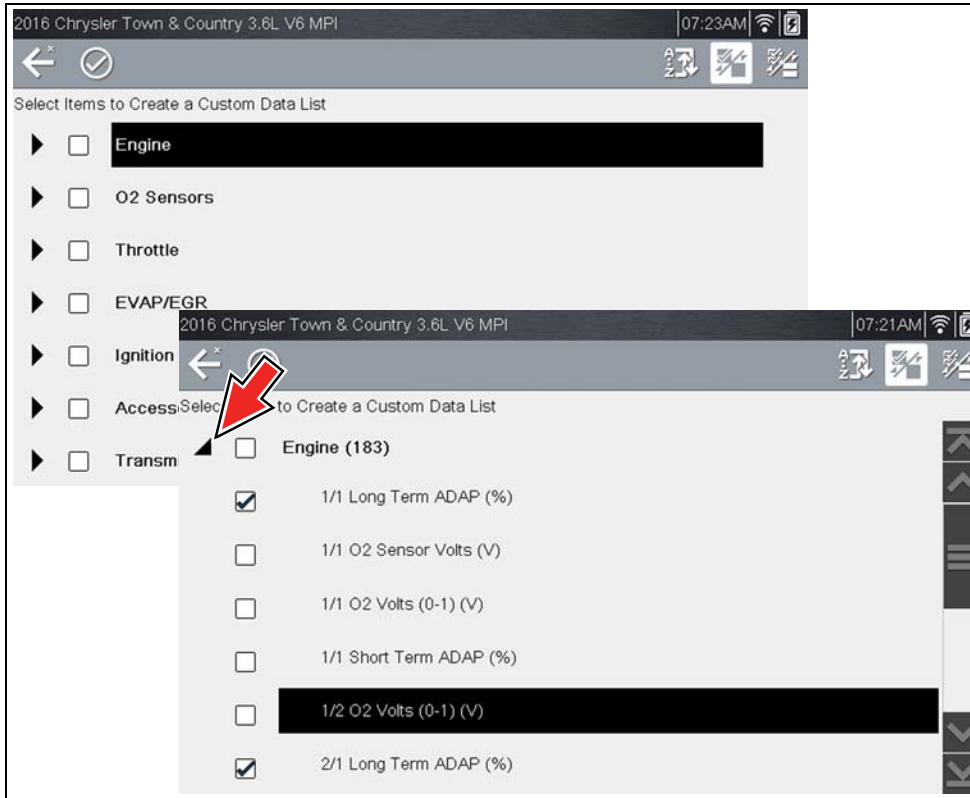

Figure 6-19
2. The data selection screen displays (Figure 6-19). Each list item is expandable, by selecting its Expand icon (Figure 6-19). You can expand any item from the list and select which PIDs you want to include, and then collapse the list and choose another if desired. The check marks to the left of the parameter description indicate which parameters are selected for display.